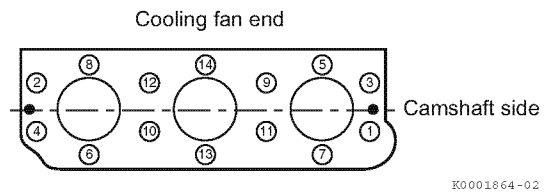

Figure 6-9
1. Loosen the cylinder head bolts following the sequence shown in (Figure 6-9).